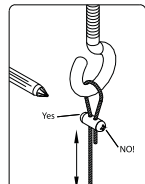

Figure 6
4. To adjust fixture height- locate screw on long cable side. (See Fig. 6). Slightly loosen screw- (do not remove screw). Adjust cable to desired fixture height. Tighten screw securely and repeat for opposite end.